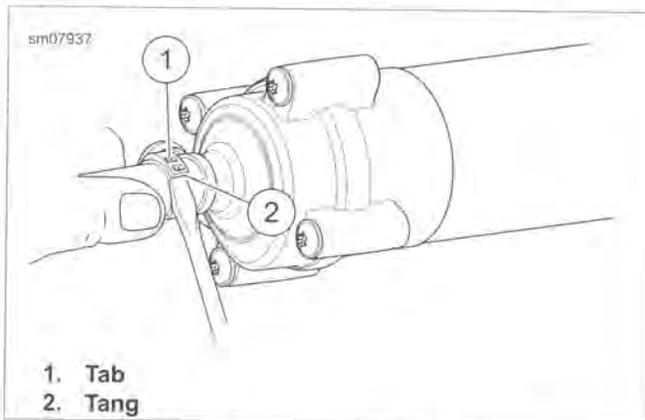

Figure C-5. Removing Crimp Clamp
- See Figure C-5. Push the tip of a small screwdriver under end of tang (2).